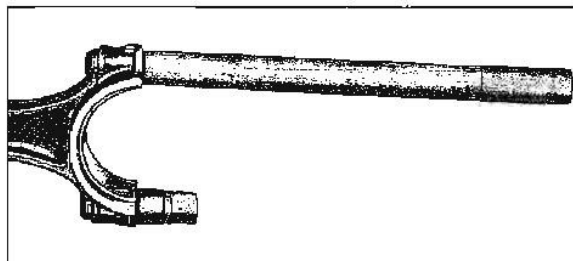

Fig. 6-68 Guide Tool J-5239 Installed
1. Install connecting rod bolt guide set J-5239 on connecting rod bolts (Fig. 6-68).